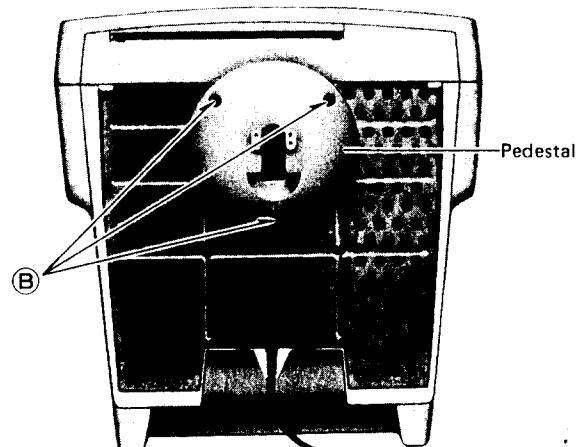

Figure 17
- h) Remove 3 screws **(B)** from the pedestal. (Figure 17)